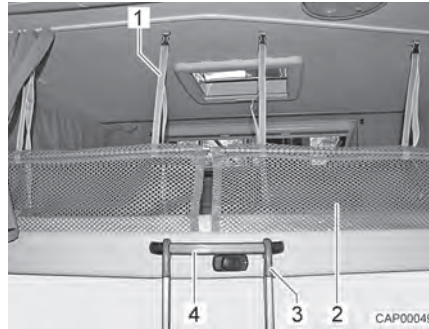

Fig. 73 Access ladder and safety net
- Hook the access ladder (Fig. 73,3) to the pull-down bed by attaching the two hooks to the curved handle (Fig. 73,4).
The safety nets (Fig. 73,2) with the retaining straps are stored under the mattress. Only use the safety nets if persons are already in the pull-down bed.
- Fasten the retaining straps (Fig. 73,1) to the holders on the ceiling.